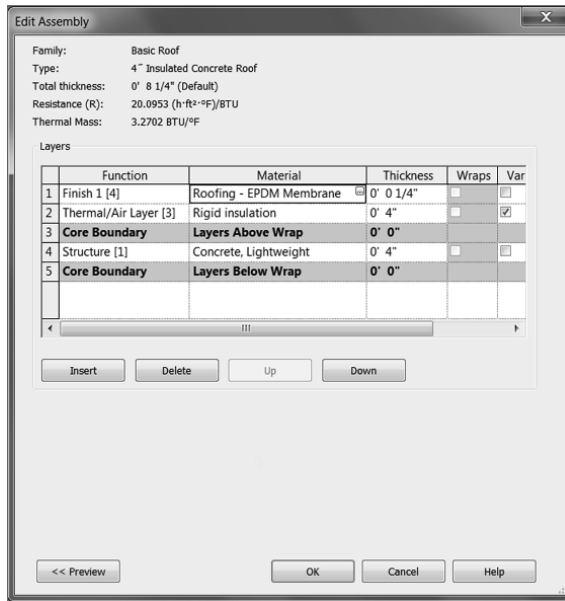

FIGURE 7.6: The completed roof system
21. Change Thickness to 1/4" (6 mm), as shown in Figure 7.6.